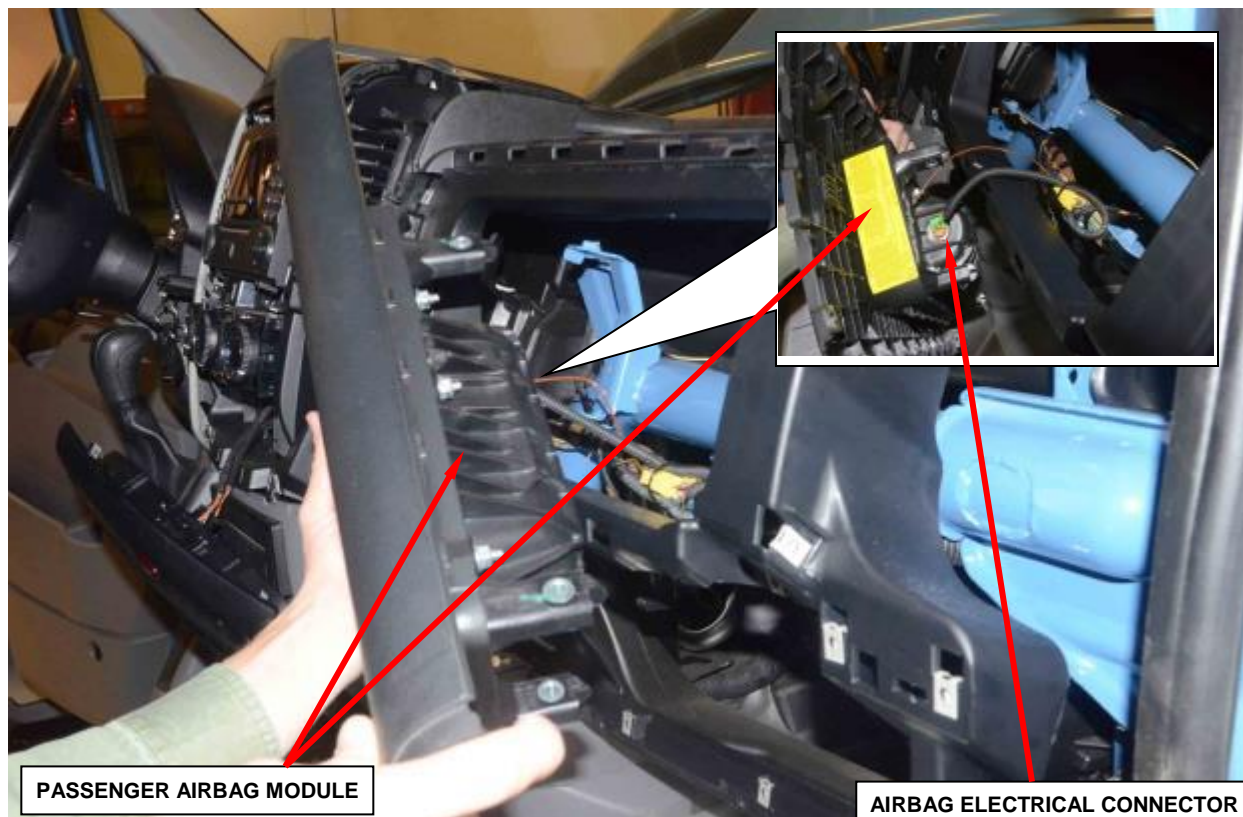

Figure 12 – Passenger Airbag Module
15. Pull the passenger airbag module rearward far enough to access the airbag electrical connector on the inboard end of the unit (Figure 12 and 13).
28. Connect the airbag electrical connector to the airbag inflator connector receptacle, which is located on the inboard end of the passenger airbag housing. Be certain that the latch on the connector and the orange Connector Position Assurance (CPA) lock are each fully engaged (Figure 12).